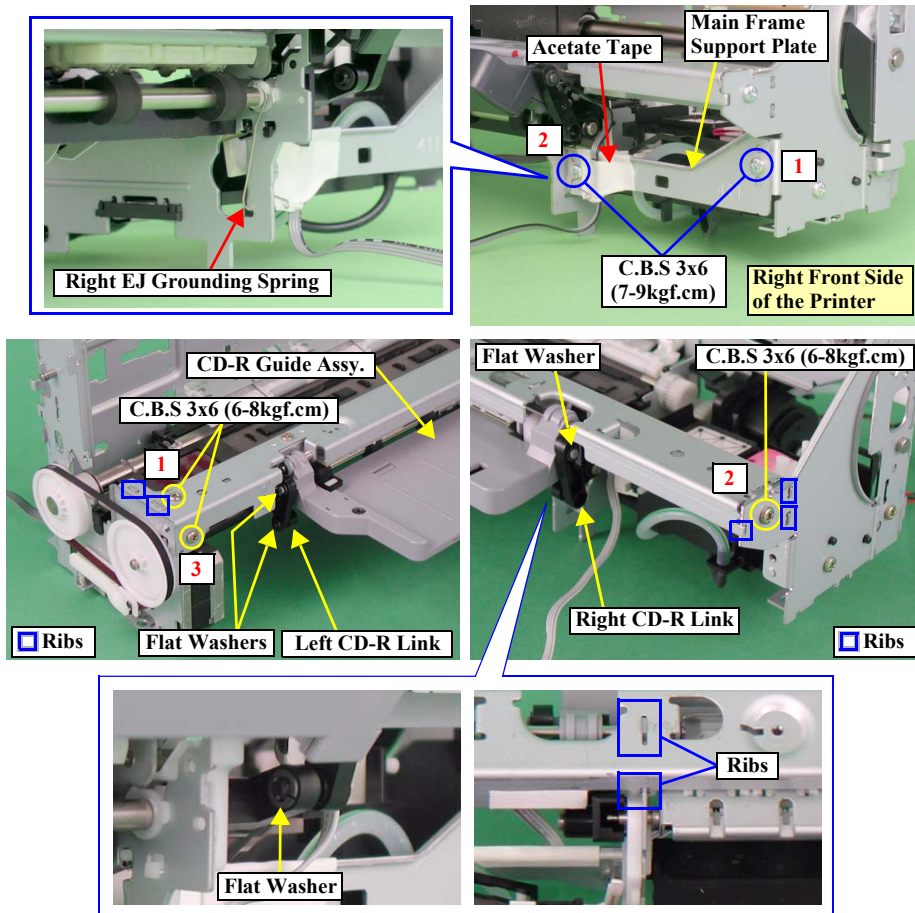

Figure 2-79. Removing the CD-R Guide Assy. (1)
- Tighten the screws in the order shown in Figure 2-79.
□ Illustration (1)